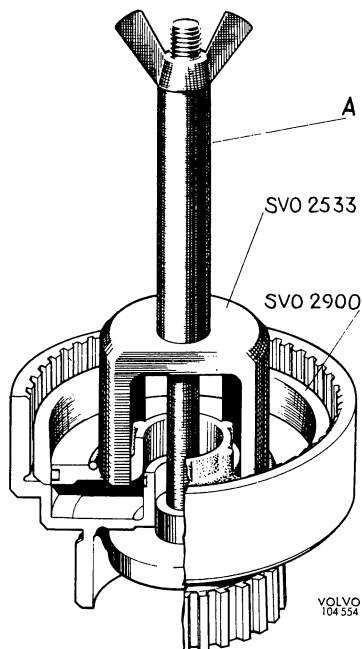

Fig. 4-104. Fitting piston for front clutch
17. Fit the sealing ring on the piston and a new O-ring in the drum. Place the piston in the fitting ring SVO 2900. Press it down until it is level with the lower edge of the ring. Fit the ring and piston in the drum. Press the piston down with the help of press tool SVO 2533 and tube A, see Fig. 4-104. Fit the ring with the dished side facing rear. Fit the snap ring.